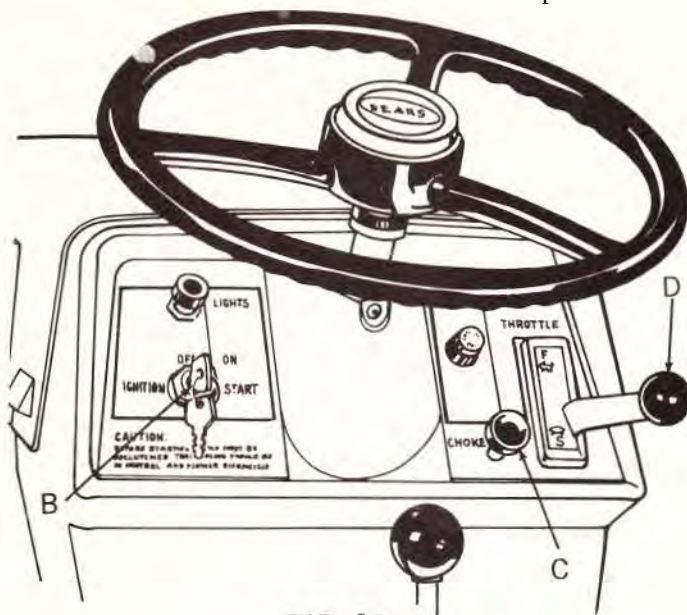

FIG. 10
5. Turn key (B, Fig. 10), in ignition-starter switch clockwise to engage starter. When engine starts, release key. After engine starts, move throttle control lever (D), to fast position. Let engine warm up, before applying load. CAUTION: Do not run starter continuously for more than 30 seconds at a time. If after several attempts engine does not start, move throttle control lever (D), to fast position. Wait for two minutes, then try again.
6. To stop engine, turn key (B, Fig. 10), in a counterclockwise direction to OFF position. Key should be removed so children can not start Tractor.